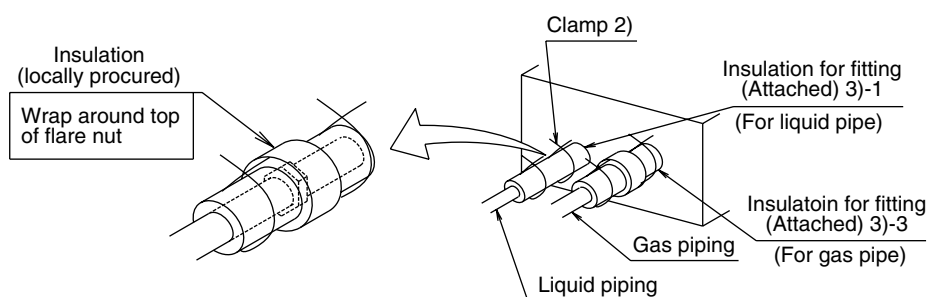

Fig. 4
- Piping connections should be checked for gas leaks and then, referring to Fig. 4, insulated using the included joint insulating material 3) on all liquid and gas pipes (a total of 5 locations)